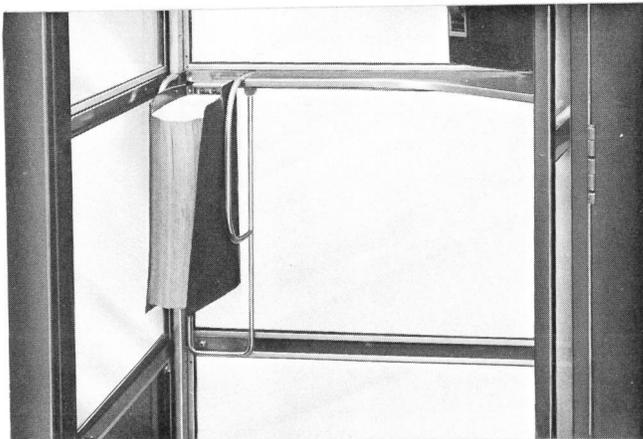

Fig. 9 – KS-16797, List 74 Directory Rack and KS-16797, List 75 Shelf Installed
7.01 Directory facilities in combination of a *KS-16797 List 74 directory rack and a List 75 shelf* (Fig. 9) shelf can be located in the left rear corner of the booth. Install as follows: